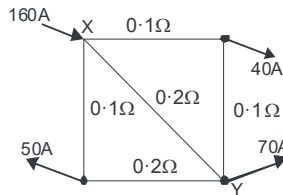

FIG. 1.144
- By using Kirchhoff's laws, determine current in XY in the circuit shown in fig. 1.144.